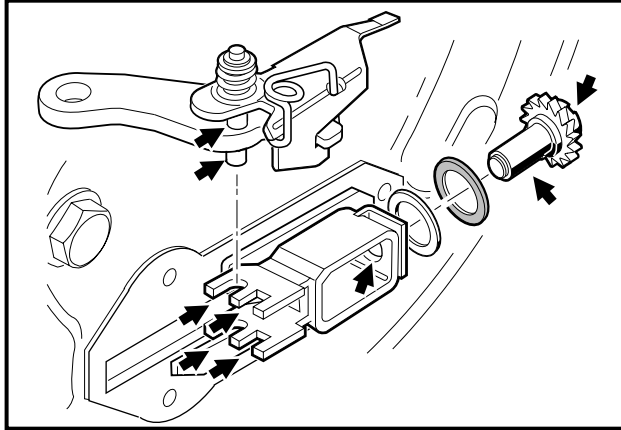

Figure 6-11 Apply Grease To Brake Adjuster
6. Use a small brush to carefully apply a light coat of white lithium NLGI #2 grease (Dow Corning® BR2-Plus or equivalent) to the brake adjuster assembly, adjuster wheel shoe slots, and the shaft of the adjuster wheel as shown (**Figure 6-11, Page 6-6**). See preceding **WARNING**.